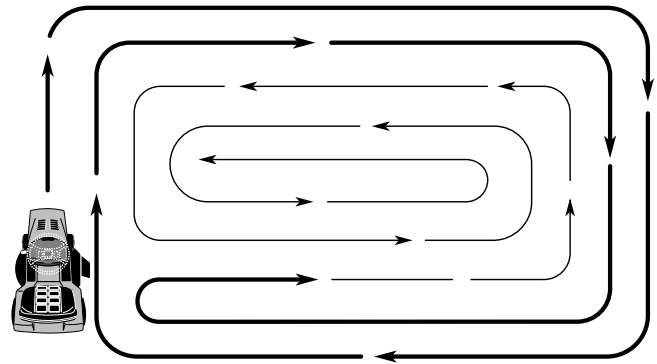

Fig. 12
- When mowing large areas, start by turning to the right so that clippings will discharge away from shrubs, fences, driveways, etc. After one or two rounds, mow in the opposite direction making left hand turns until finished. (See Fig. 12).